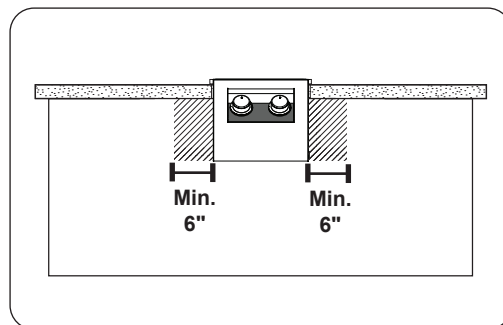

Fig. 19-1 Control panel clearances
- The control panel **MUST** have a minimum side clearance of 6" from any obstructions/side walls. See Fig. 19-1.